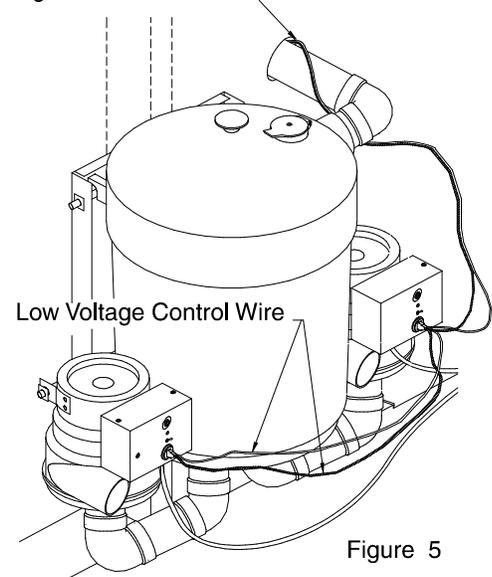

Figure 5
12. Wire the low voltage control wire, taking care to keep the polarity between the low voltage control box(s) as illustrated in Figure 5 & 6. Left terminal to left terminal, right terminal to right terminal. The low voltage control wire can be run behind the canister.